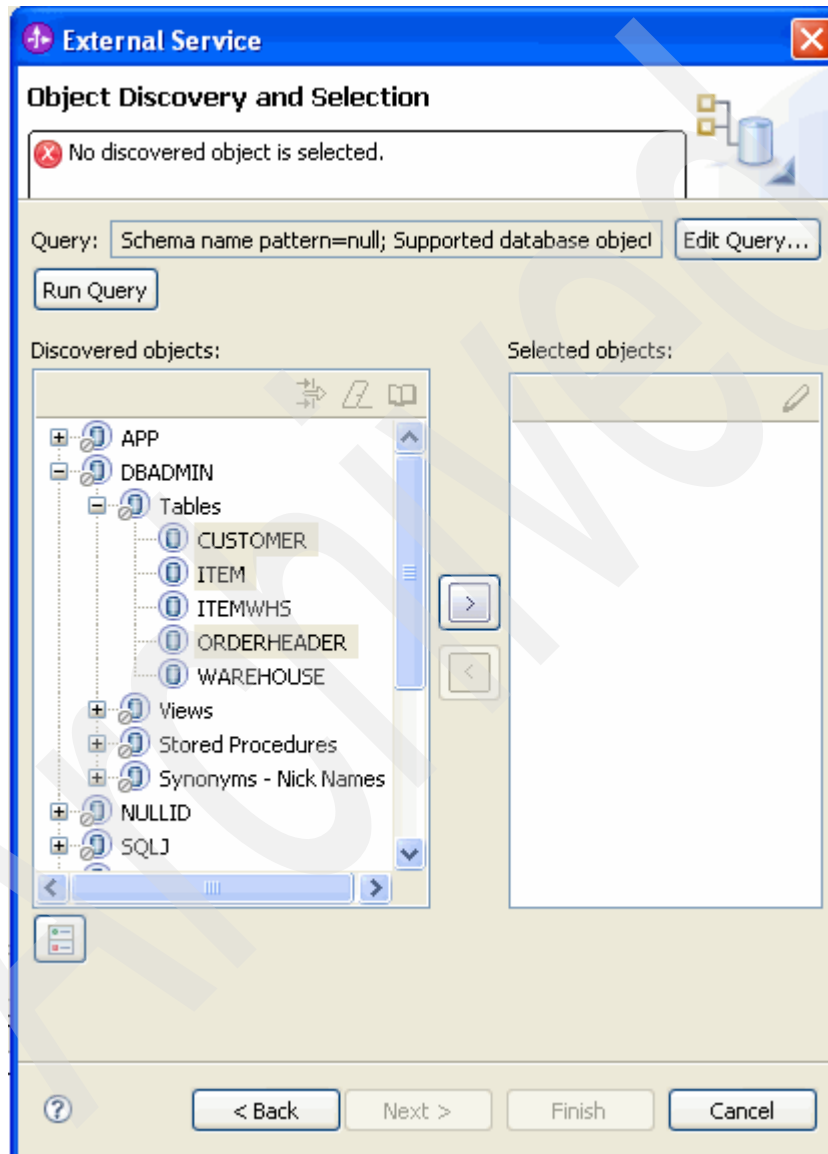

Figure 5-8 Object discovery
11. Expand DBADMIN and then Tables. Select **CUSTOMER**, **ORDERHEADER**, and **ITEM** (use the Ctrl key to select multiple items) as shown in Figure 5-8. Then click the > icon to move these objects into the Selected objects area.